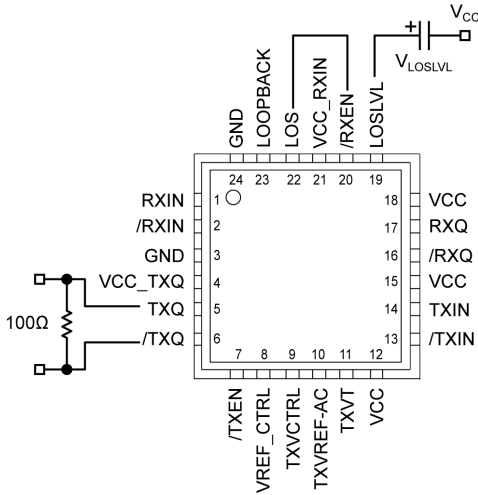

Figure 2a. Voltage Source Implementation
The SY58621L features a chatter-free Loss-of-Signal (LOS) TTL compatible output with an internal 4.75kΩ pull-up resistor. LOS circuitry monitors the input receiver signal and asserts a signal when the input signal falls below the threshold set by the programmable LOS level set pin (LOSLVL). When the amplitude of the receiver input signal falls below the threshold, LOS is asserted HIGH with a response time of ~0.2μs. LOS can be fed into /RXEN to maintain output stability by disabling the output during a Loss-of-Signal condition. Figure 2a and 2b shows the LOS connection to /RXEN. When /RXEN is HIGH, the output signal RXQ is held LOW and /RXQ is held HIGH. Typically, 2dB of LOS hysteresis is adequate to prevent the receiver output from chattering. LOS operation is optimized for data rates  $\geq 622$ Mbps with an input receiver amplitude of at least 10mV (20mVPP). Due to the long time constant in slower data rates below 622Mbps, the SY58621L LOS function does not guarantee chatter-free operation for low amplitude signals.
between VCC and LOSLVL sets the input amplitude LOS detection trip-point by setting up a voltage divider between VCC and VREF (an internal voltage source set at VCC-1.3V), since there is a 2.8kΩ internal resistor connected between LOSLVL and VREF. The input voltage range of LOSLVL ranges from VCC to VREF. See the “Functional Block Diagram” section and Figures 2a and 2b, to see how RLOSLVL sets up a voltage divider between VCC and VREF. See the “LOS Output DC Electrical Characteristics” table and “Typical Operating Characteristics” section to see how different RLOSLVL values affect LOS sensitivity.
- Connecting the input /RXEN to the LOS output as shown in Figures 2a and 2b, maintains receiver output stability under a Loss-of-Signal condition